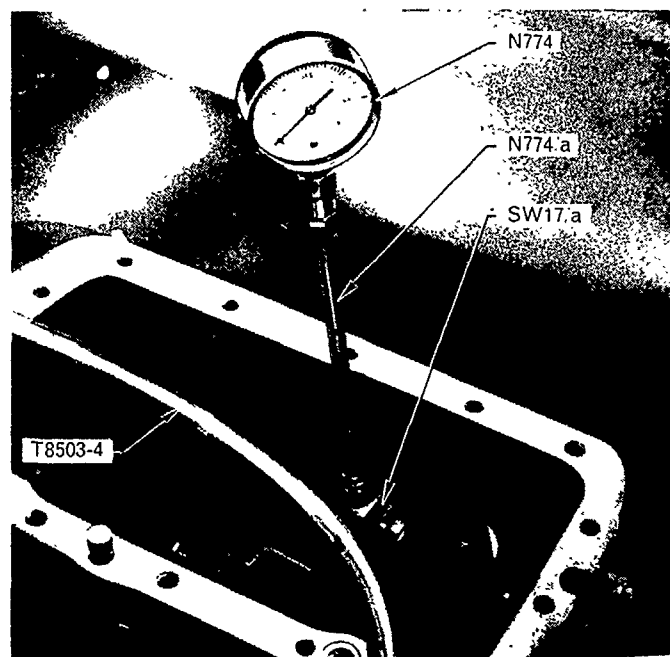

Figure 6
Remove the hydraulic lift cover, for details refer to Part 11, Chapter 1. Disconnect the control valve to clutch support housing tube at the control valve end. Connect N774 pressure gauge to the control valve using SW17/a adaptor and N774/a tube, Figure 6.
7. Connect the pressure gauge as shown in Figure 6 and detailed in Section 2. Pressure test the control valve and if pressure is incorrect remove the valve and alter